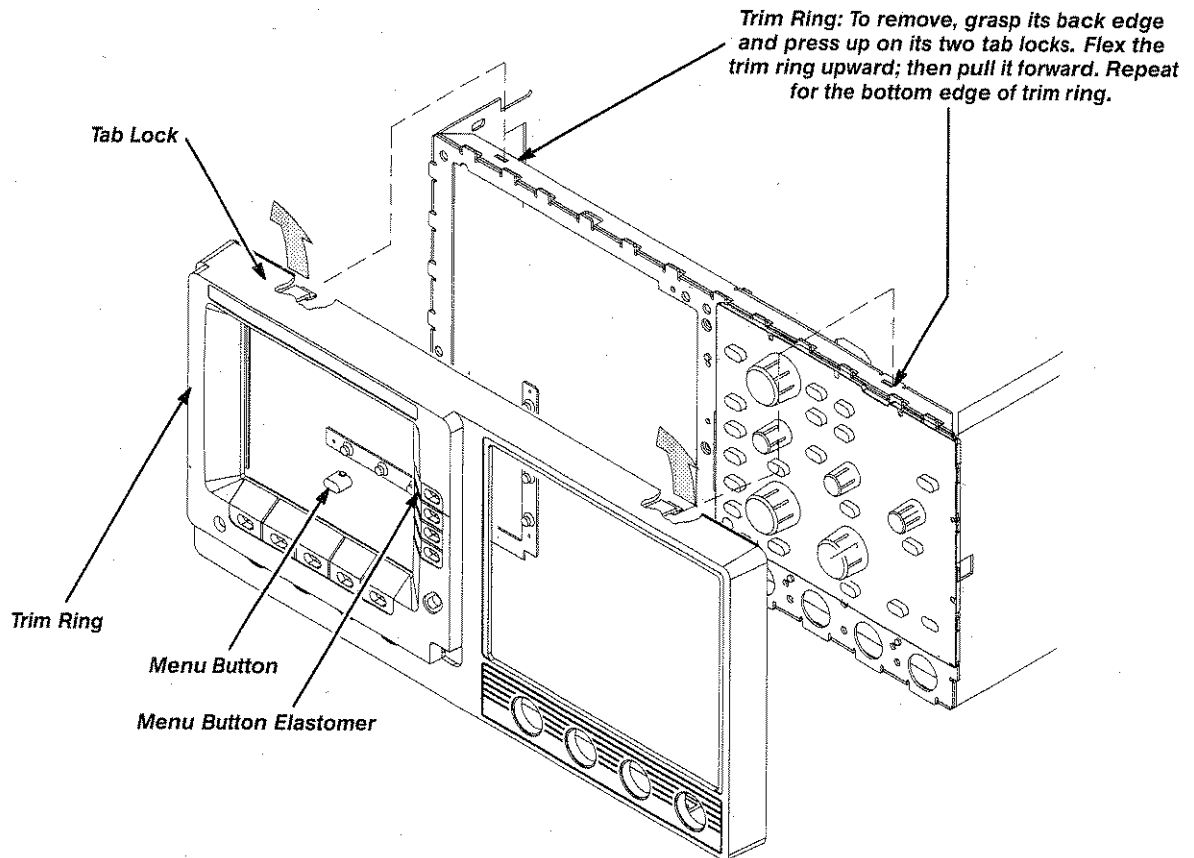

Figure 8-5: Trim Ring and Menu Buttons Removal
1. Slide a flat-bladed spudger between the chassis and the plastic front trim, near one of the four flex locks. See Figure 8-5.